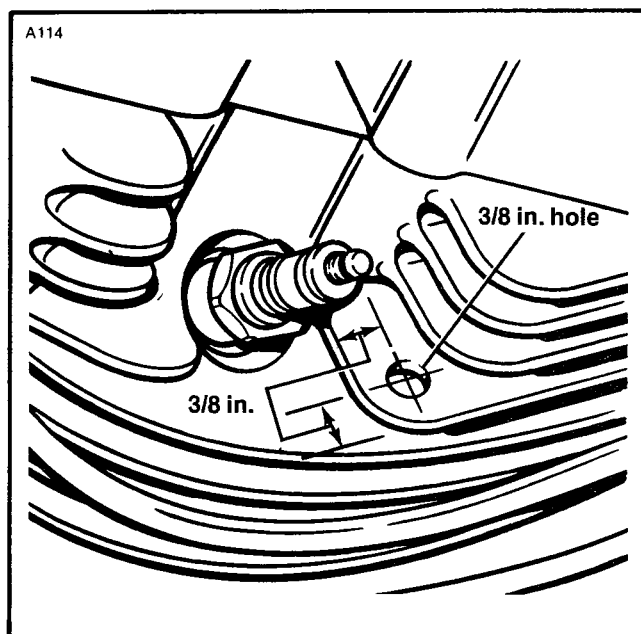

Figure 1. Drilling Hole Location for Sending Unit
The proper drilling location for FL/FX models is through the lower cooling fin adjacent to the spark plug. (See Figure 1).
2. Lightly centerpunch or mark hole where shown (see Figure 1). Using light pressure, drill 1/8 inch dia. pilot hole through lower fin directly adjacent to the spark plug on front cylinder head.